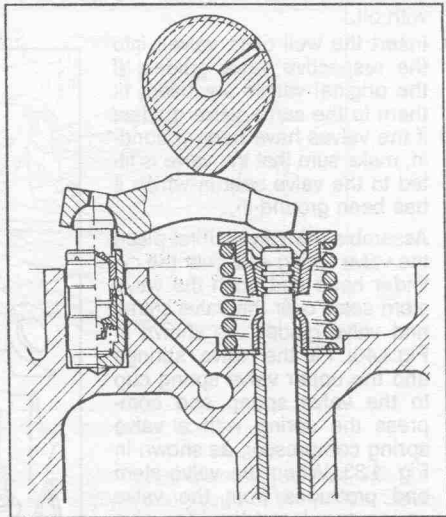
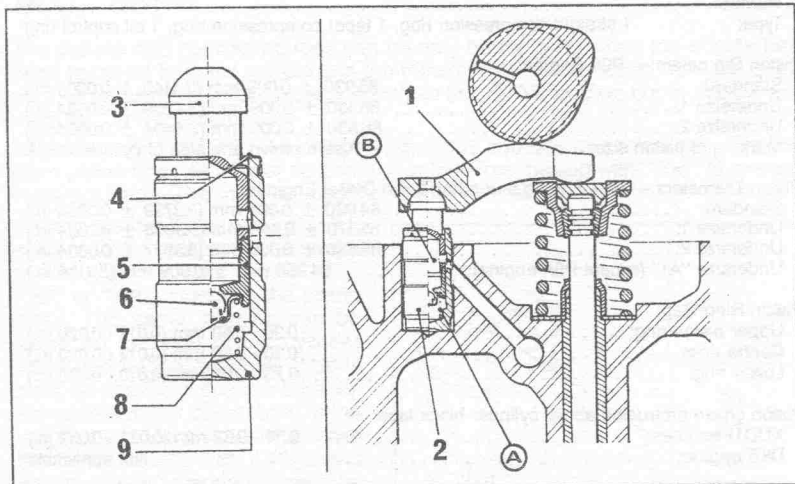

Fig. 1.42. — Sectional view of the valve operating mechanism.
Fig. 1.47. — Sectional view of a hydraulic tappet and the rocker mechanism. The numbers and letters are referred to in the text.
- Lubricate the hydraulic tappets and insert them into their respective bores (ball heads towards the top). Place the rocker levers in position, again as marked during removal. Compare the assembled rocker lever/tappet arrangement with Fig. 1.42. Place this part of the cylinder head to one side until later.
The valves are operated by automatically adjusted rocker levers. Fig. 1.42 shows the arrangement of a tappet, rocker lever and valve in relation to the camshaft. The mechanism functions as follows. Fig. 1.47 should be referred to: